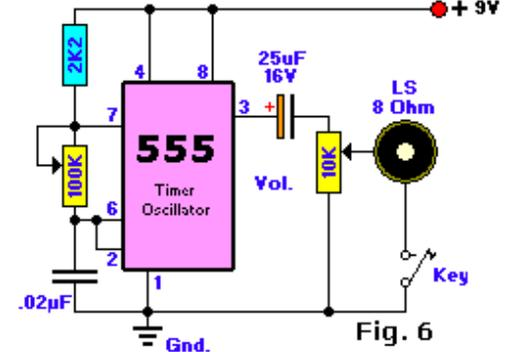

Fig. 6
- Fig. 6, CW Practice Oscillator